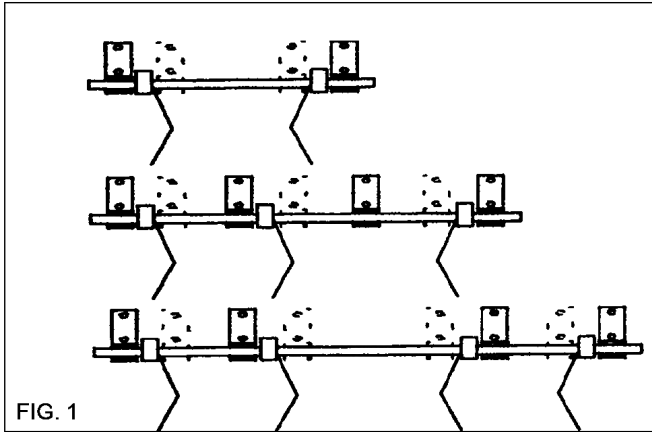
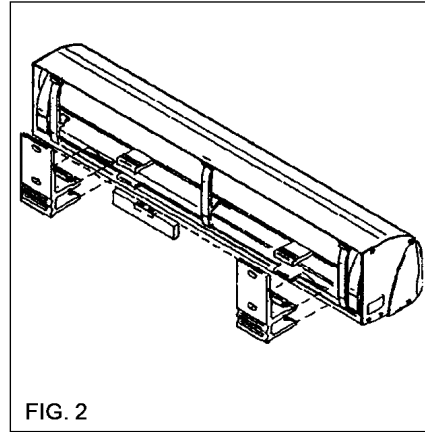

FIG. 1
FIG. 2
- Die Wandkonsolen montieren wie in Fig. 1 angegeben.
- The wall brackets are positioned just left or right of the arm brackets (fig. 1). The position is marked at the back of the square tube (fig. 2).
- Fix the brackets in a straight horizontal line on the right place with a max. deviation of 2 mm (fig. 2).
- Place the wall supports as indicated on fig. 1 (4 arms).